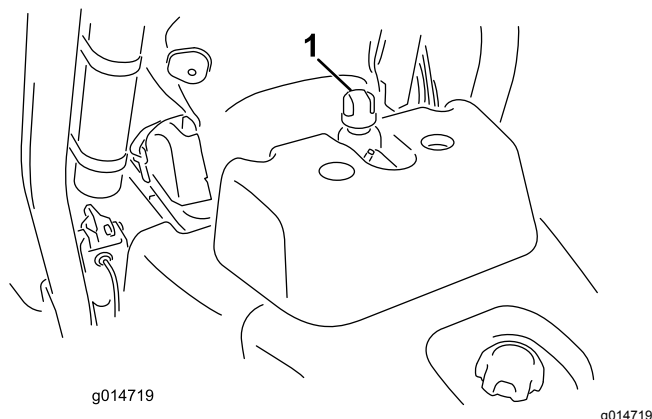

Figure 29
2. Remove the cap from the reservoir (Figure 29).